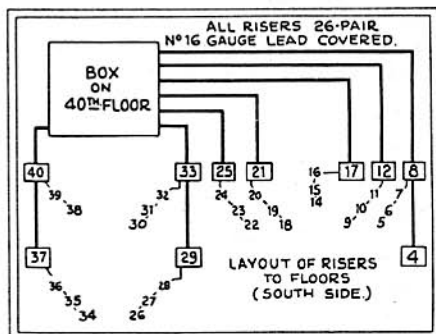

Fig. 2
are shown diagrammatically in Fig. 2. The narrow roller (1) which rides over the surface of the film (3) is partly visible behind the large slotted roller, (2). The former roller is held in contact with the film by means of the spiral spring (5) visible in the film switch assembly. This spring pushes the narrow roller into the slotted leader, thus allowing the contacts of the film switch to come together.